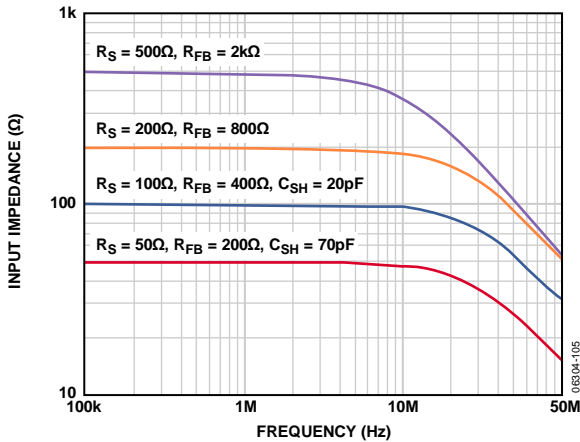

Figure 42. R_{IN} vs. Frequency for Various Values of R_{FB} (Effects of R_{SH} and C_{SH} Are Also Shown)
The bandwidth (BW) of the LNA is about 70 MHz. Ultimately the BW of the LNA limits the accuracy of the synthesized R_{IN} . For $R_{IN} = R_s$ up to about 200 Ω , the best match is between 100 kHz and 10 MHz, where the lower frequency limit is determined by the size of the ac-coupling capacitors, and the upper limit is determined by the LNA BW. Furthermore, the input capacitance and R_s limit the BW at higher frequencies. Figure 42 shows R_{IN} vs. frequency for various values of R_{FB} .
Note that at the lowest value, 50 Ω , in Figure 42, R_{IN} peaks at frequencies greater than 10 MHz. This is due to the BW roll-off of the LNA, as mentioned previously.